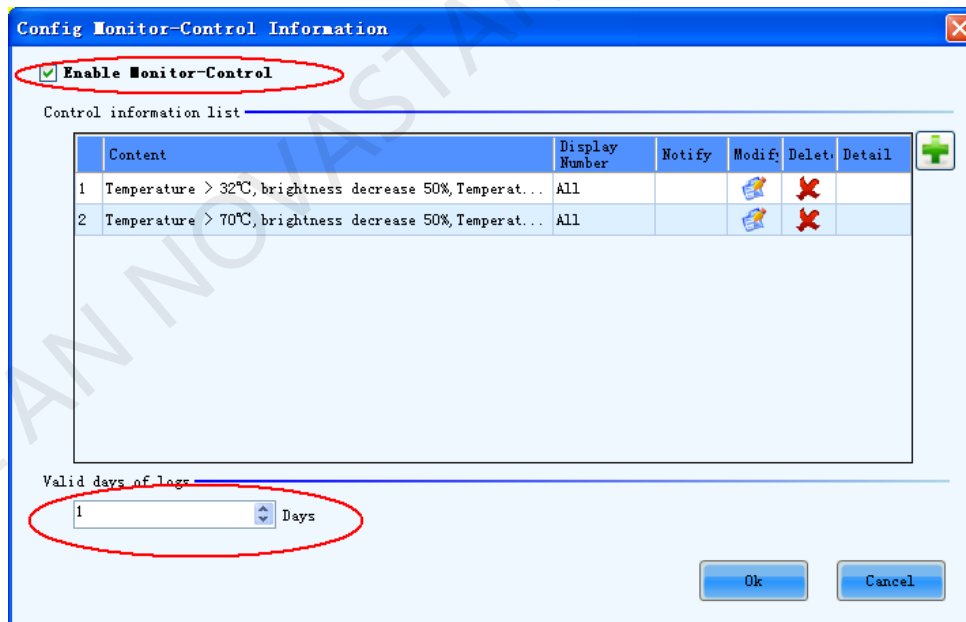

Fig. 7-42 Configuration Of Monitor-Control
One control information can be added by clicking the button  in Fig.7-42. As it show in Fig. 7-43 is to add one temperature control information, as it show in Fig. 7-44 is to add one smoke control information.
2) In Fig. 7-42 click on the cabinet in the sketch map to open the **Point Detect Result of**